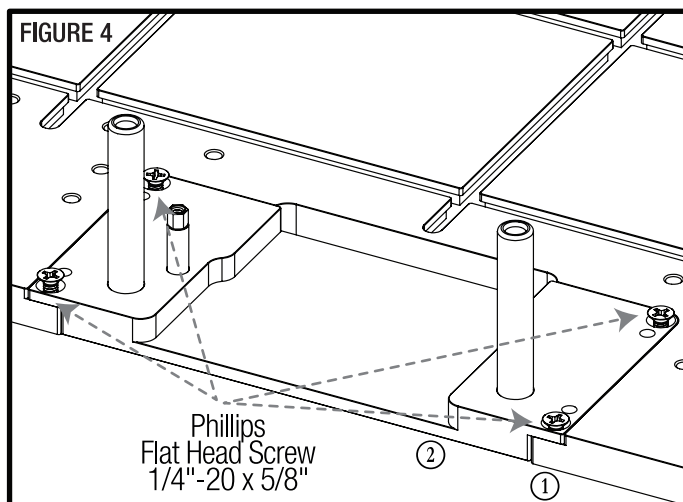

FIGURE 4
5. Slide the Base back into position on the Table. Install (4) Phillips Flat Head Screws 1/4"-20 x 5/8" through the Base and start the screws into the threaded holes in the Table. **DO NOT** tighten at this time. **Figure 4.**